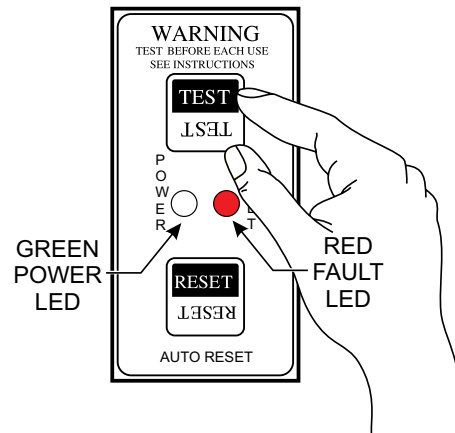

Figure 68. GFCI Sensing Module (Red/Fault LED ON)
6. Next, press the **TEST** button on the GFCI sensing module (Figure 68) and verify that the **GREEN** power LED turns **OFF** and the **RED** fault LED turns **ON**.